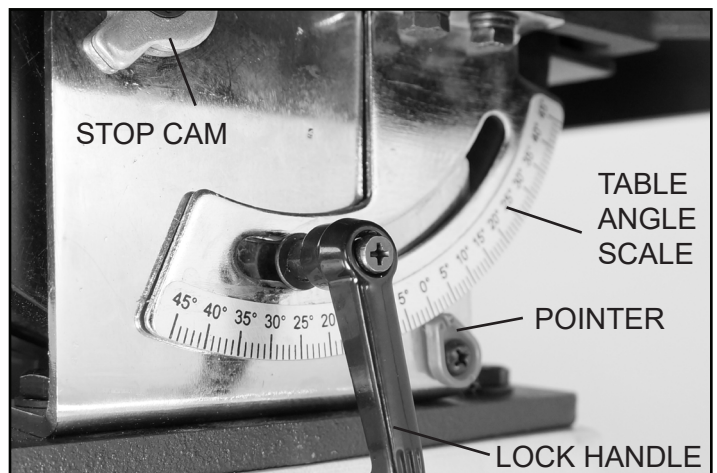

FIG. 7
3. Located under the work table are two stop Cams (#21A) on either side of the Table Brackets (#2A, 3A) which can be adjusted to level the table (Fig. 7). With a 4mm hex wrench, loosen the cam's center Hex Nuts (#22A) to rotate the cams to raise or lower the table setting. When the table to spindle angle is at 90°, tighten the hex nuts to lock the stop cams in position.
4. Check the pointer and table angle scale setting to confirm that it is properly set to show the table angle is at 90° (0°). With a #2 Phillips screwdriver, loosen the pointer screw, align the pointer with the 0° position on the scale, and then re-tighten screw. Figure. 7.